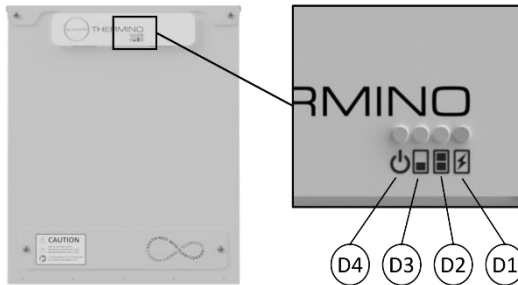

Figure 13 - Thermino ePlus Heat Battery LED operation
7. Check the front of the Heat Battery to ensure that the “power” and “heating element” LEDs are lit (see Figure 13 & Table 8).